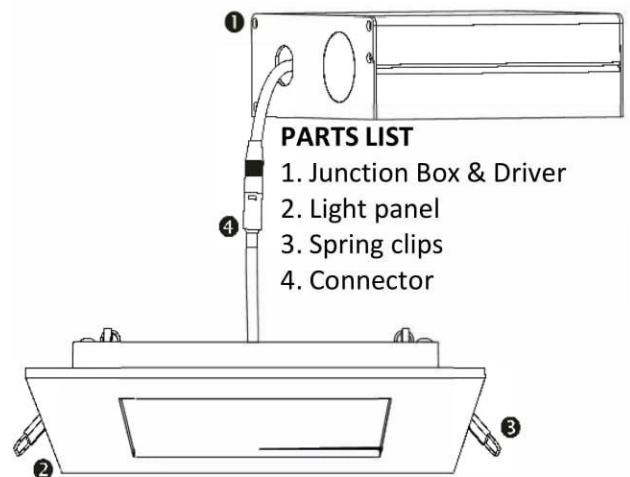

Fig. 1
2. Determine the location for installation and cut ceiling hole in accordance with cut-hole dimensions. Refer to *Hole Diameter* table for appropriate sizes. (Fig. 1)